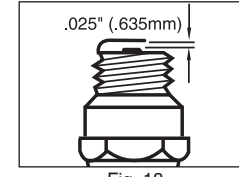

Fig. 18
1. Spark plug gap = .025" (.635mm) (Fig. 18).